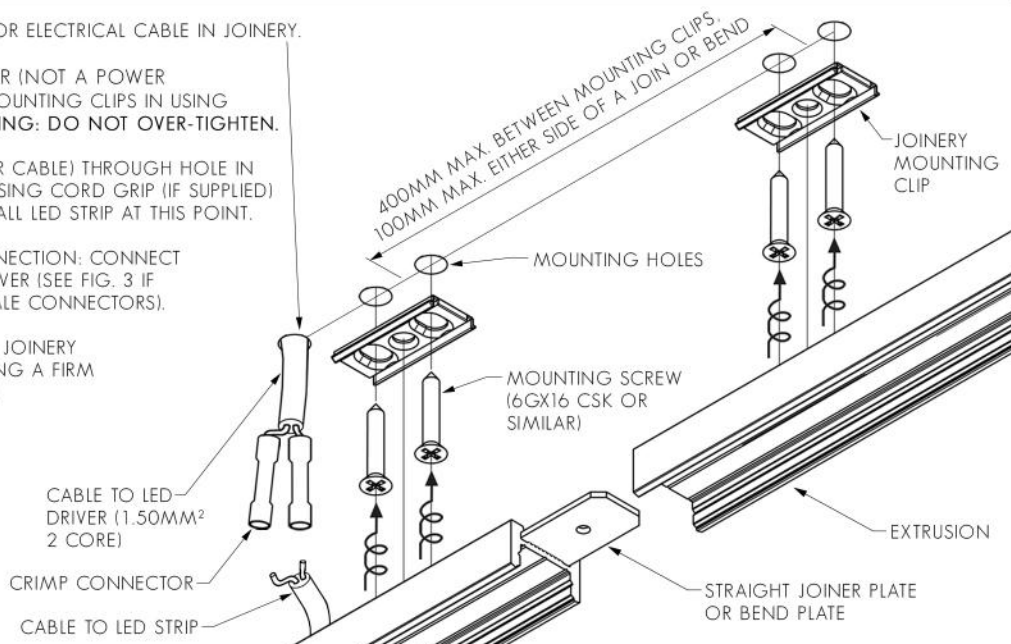

FIG. 2 - FASTEN CABLE USING CORD GRIP
3. FEED LED STRIP TAILS (OR CABLE) THROUGH HOLE IN EXTRUSION AND CLAMP USING CORD GRIP (IF SUPPLIED) (SEE FIG. 2). DO NOT INSTALL LED STRIP AT THIS POINT.